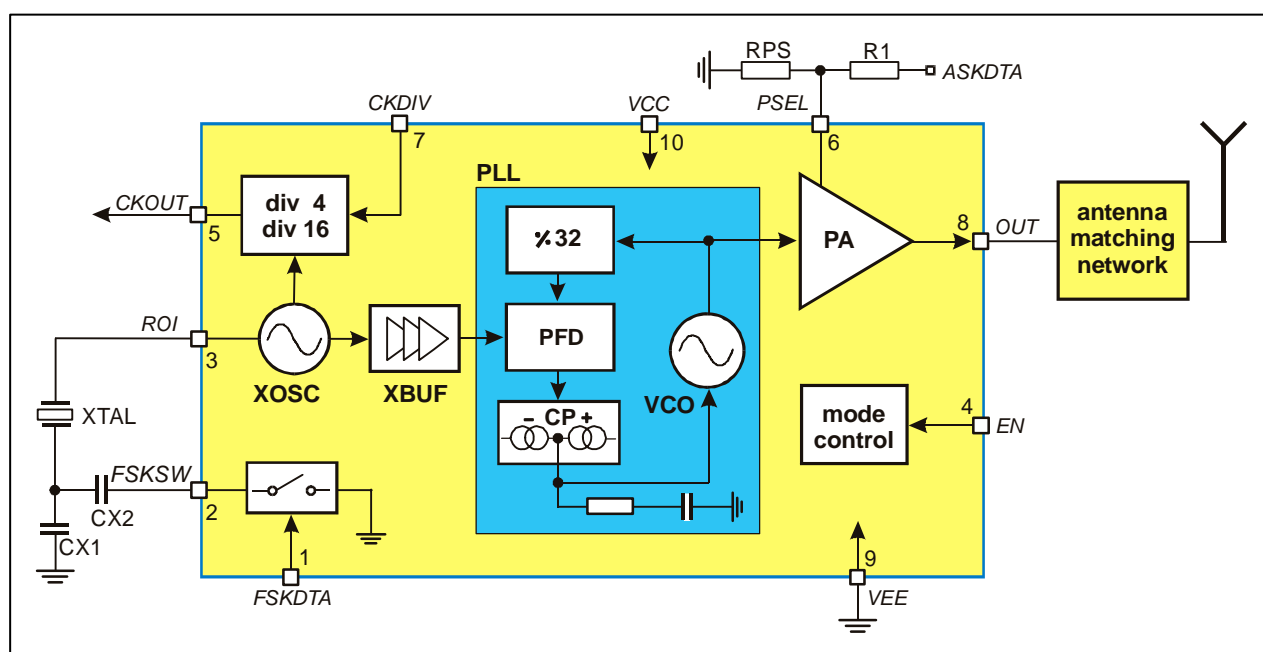

Fig. 1: Block diagram with external components
As depicted in Fig.1, the TH72016 transmitter consists of a fully integrated voltage-controlled oscillator (VCO), a divide-by-32 divider (div32), a phase-frequency detector (PFD) and a charge pump (CP). An internal loop filter determines the dynamic behavior of the PLL and suppresses reference spurious signals. A Colpitts crystal oscillator (XOSC) is used as the reference oscillator of a phase-locked loop (PLL) synthesizer. The VCO's output signal feeds the power amplifier (PA). The RF signal power P_{out} can be adjusted in four steps from $P_{out} = -12$ dBm to $+10$ dBm, either by changing the value of resistor RPS or by varying the voltage V_{PS} at pin PSEL. The open-collector output (OUT) can be used either to directly drive a loop antenna or to be matched to a 50Ohm load. Bandgap biasing ensures stable operation of the IC at a power supply range of 1.95 V to 5.5 V.